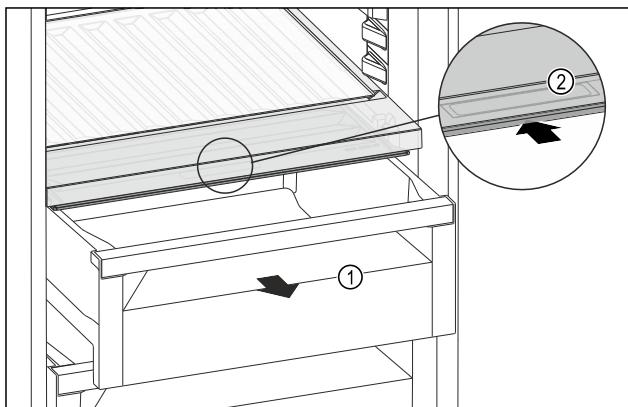

Fig. 125
- Pull out the drawer Fig. 125 (1).
- Grasp the recessed grip Fig. 125 (2) on the compartment lid and push the compartment lid backwards at the same time.